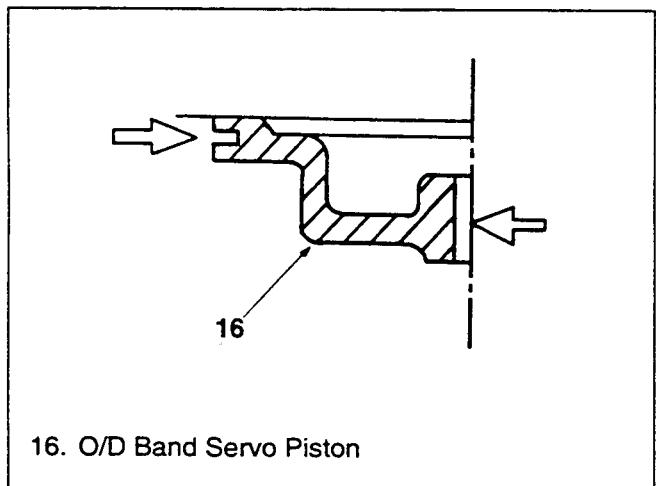

Figure 211. O/D Band Servo Piston Check
**O/D Band Servo Piston (Figure 211)**